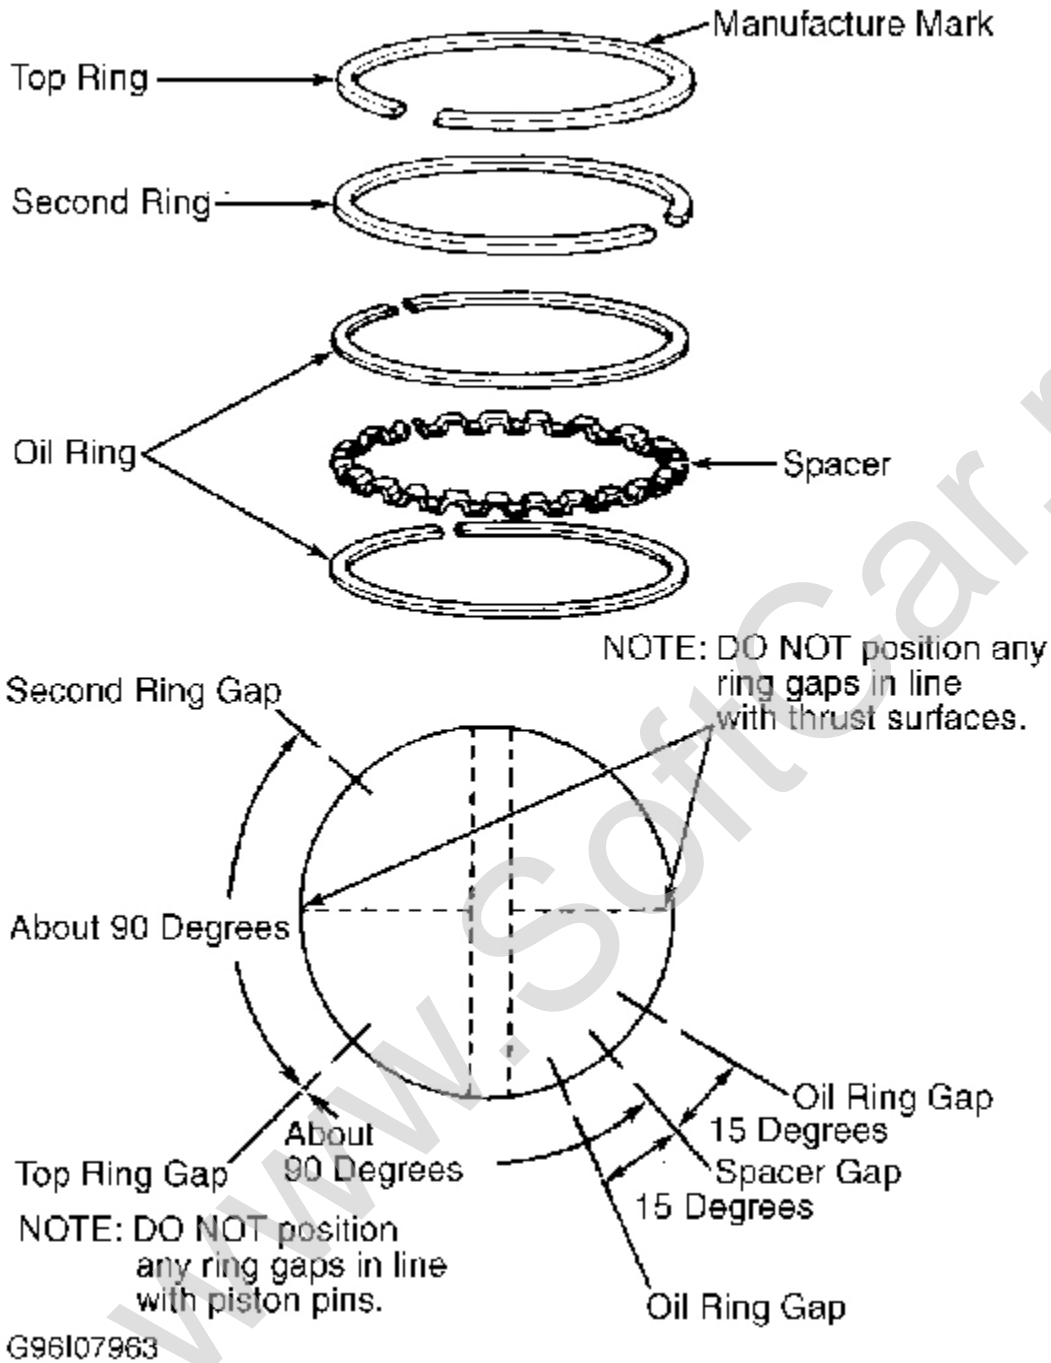

Fig. 14: Installing Piston Rings
3. If ring lands are excessively worn, replace piston. See **PISTONS, PINS & RINGS** table under ENGINE SPECIFICATIONS. Align piston ring end gaps properly on piston. See **Fig. 14**.